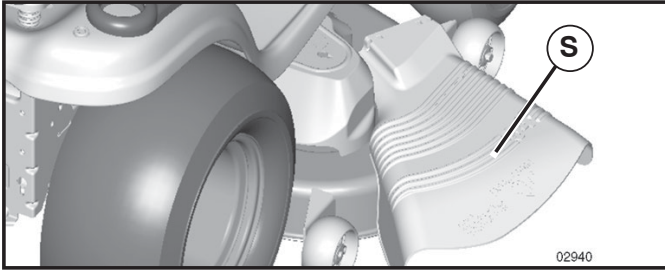

Fig. 10
CAUTION: Do not operate the mower without either the entire grass catcher, on mowers so equipped, or the deflector shield (S) in place. (See Fig. 10)